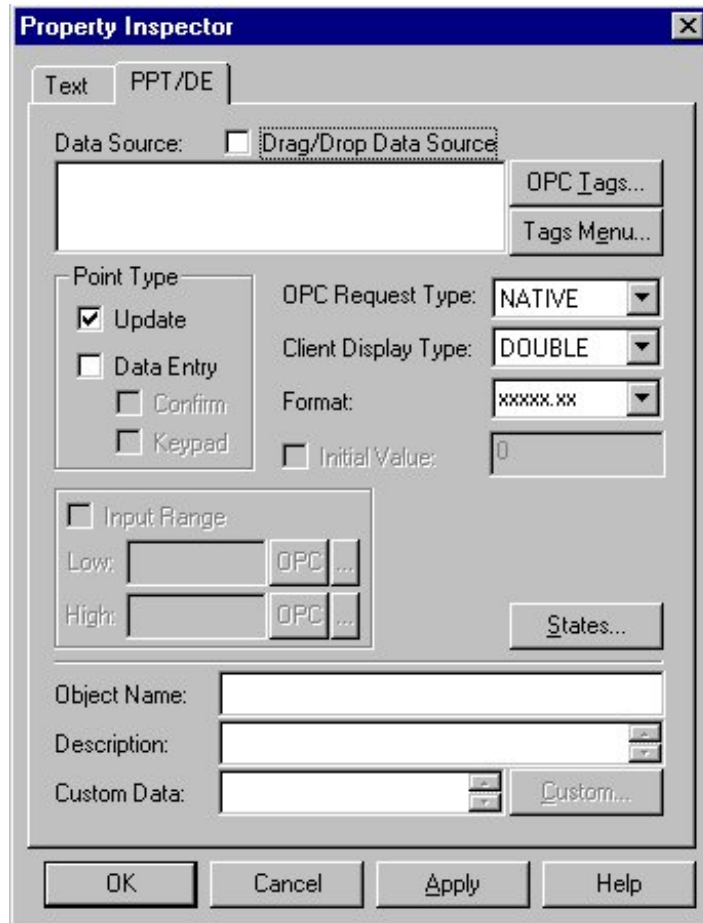

Figure 11-15: Property Inspector Dialog Box – PPT/DE Tab
2. Click in the work area. The Property Inspector dialog box appears with the PPT/DE tab (Figure 11-15).